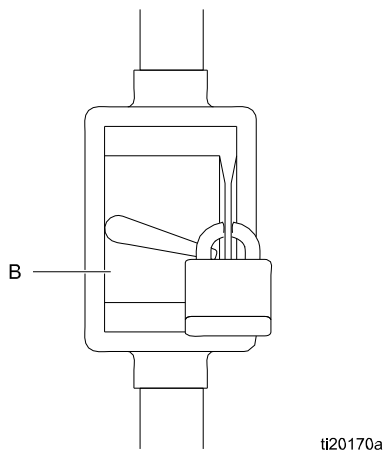

Figure 2 Locked Out Disconnect
1. Ensure that the disconnect (B, Fig. 2) is shut off and locked out.